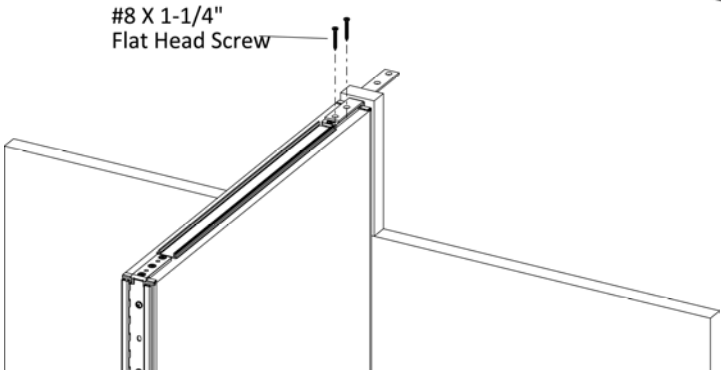

Figure 3
- Drive two #8 X 1-1/4" Flat Head Screws through the holes in gallery panel top bracket into the standard panel, (Figure 3).